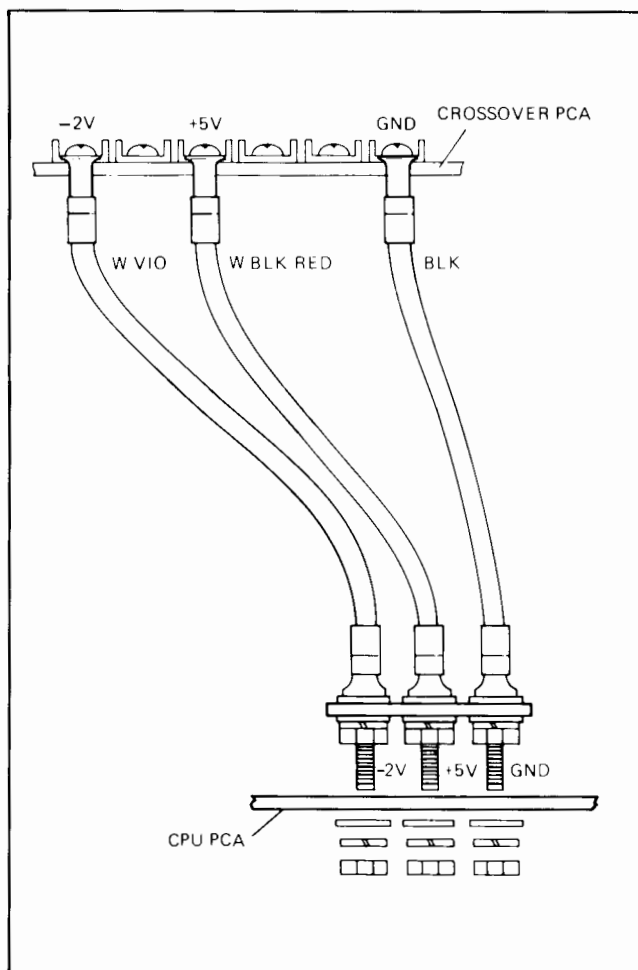

Figure 2-3. CPU Power Connections
- Remove the three nuts and six washers from power terminals located in center of CPU PCA. (See figure 2-3.)
- Carefully insert power terminals in center of CPU PCA as shown in figure 2-3. Secure power terminals to CPU PCA with the three nuts and six washers.